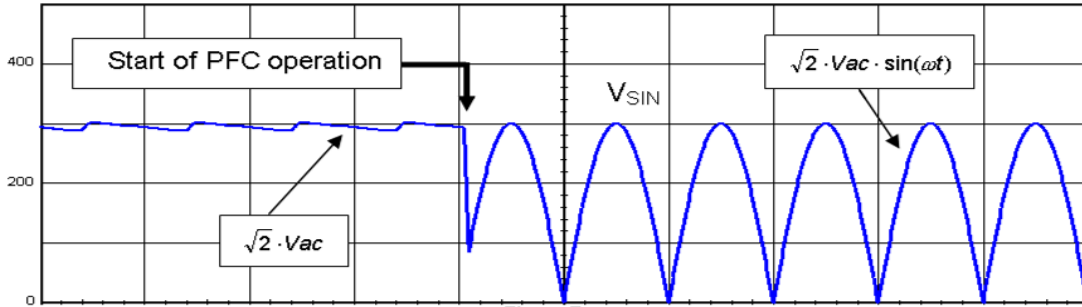

Figure 23. Typical Input Voltage of a PFC Stage
- ◆ Before operation, the PFC stage is off and the input bridge acts as a peak detector (refer to Figure 23). As a consequence, the input voltage is approximately flat and nearly equates the ac line amplitude: